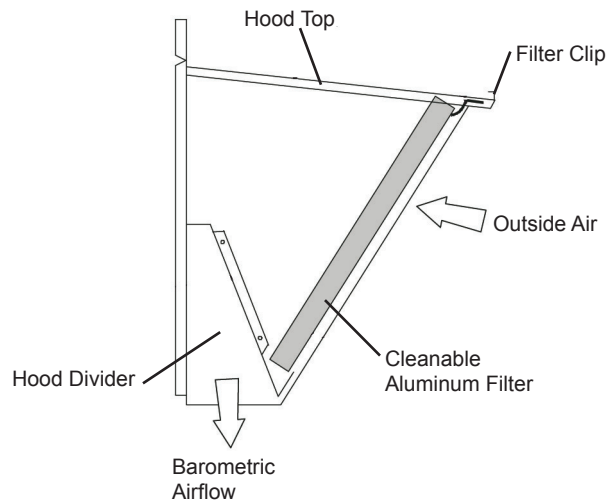

Fig. 5 - Filter Installation
12. Open the filter clips on the inside of the hood top. Insert the aluminum filter into the hood and close the clips to hold in place. See Fig. 5.